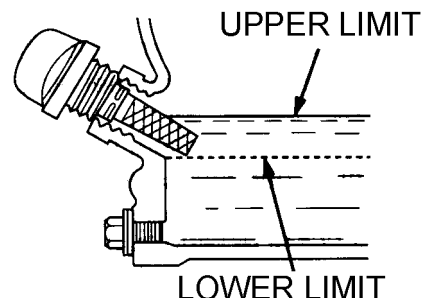

Figure 15. Engine Oil Dipstick (Oil Level)
4. If the oil level is low (Figure 15), fill to the edge of the oil filler hole with the recommended oil type as listed in Table 8. Reference Table 3 for maximum engine oil capacity.